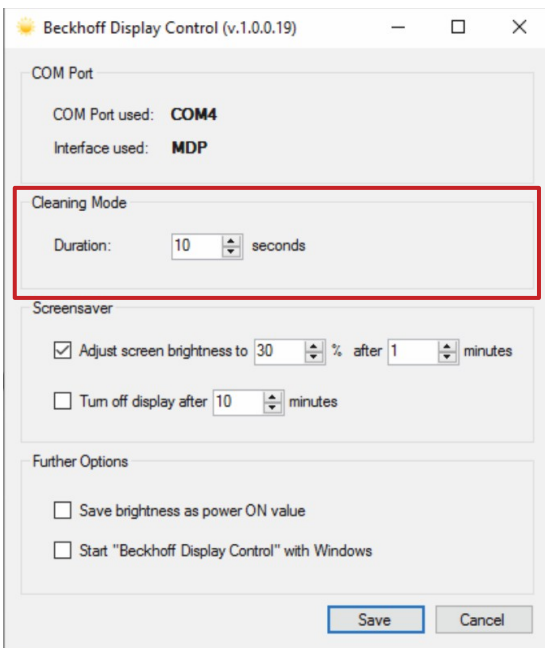

Fig. 38: CP32xx-1600\_configuration "Cleaning Mode"
3. Select the "Cleaning Mode" (see Fig. 38).